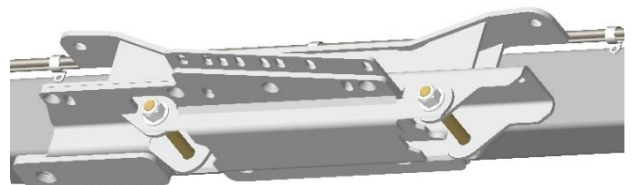

Figure 10
58. Locate the lower control arm mounting bracket, gusset plates, and hardware kit 155 (see figure 10). Align the LCA mounting holes with M14 bolts then secure the control arm gusset plates onto the control arm mounts using four 3/8 x 1 flat head screws and flange nuts per side. There is a left and right for each part, ensure the countersinks match up to the bolts for a flush finished product. Tighten 3/8 bolts then remove M14 bolts from LCA mounts.